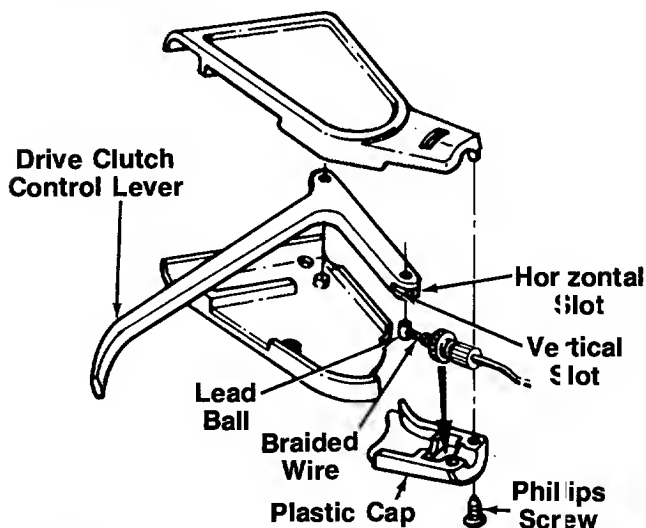

FIGURE 5.
2. Slide the braided wire around in the horizontal slot. See figure 5.
4. Secure the plastic cap to the clutch control housing using the two Phillips head screws. See figure 5.